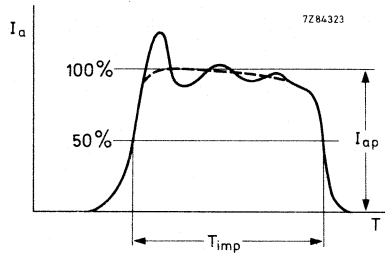

Fig. 1 Current pulse.
- $T_{imp}$  The pulse duration  $T_{imp}$  is defined as the time interval between the two points on the current pulse at which the current is 50% of the smooth peak current (see Fig. 1).